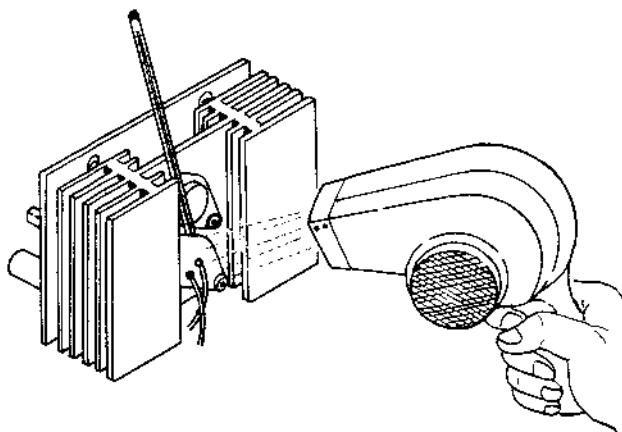

Fig. 4-7-3 Thermal Sensitivity Protection Check
- Step 3: Insert a thermometer between the power transistor and CS. Heat the power transistor and CS, gradually using a heat blower, as shown in Fig. 4-7-3. A conventional hair dryer is acceptable.